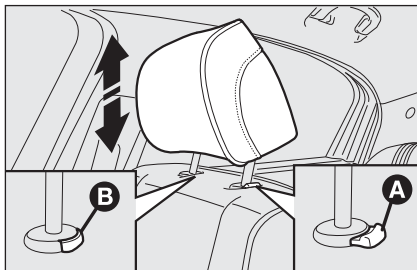

fig. 34
- press buttons **A** and **B**-fig. 34 (set aside the two head restraint supports) then remove the head restraints by pulling them upwards.